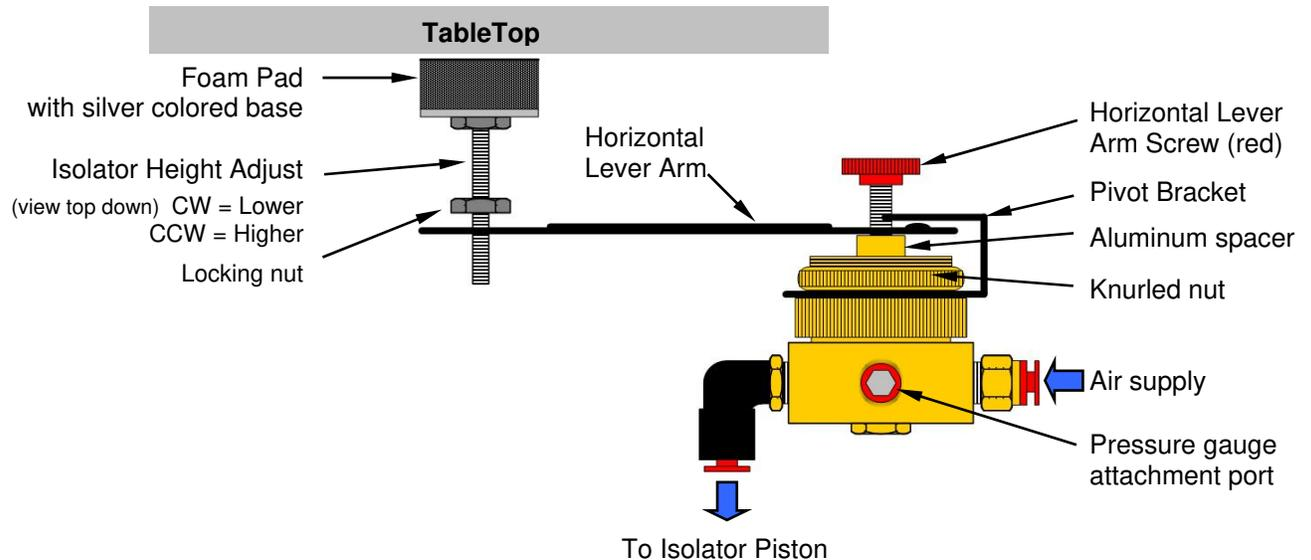

Figure 7 Height Control Valve
Step 17 Tighten *locking nut* on **ISOLATOR HEIGHT ADJUST** for all three valves as shown in figure 7 above, *Height Control Valve*.